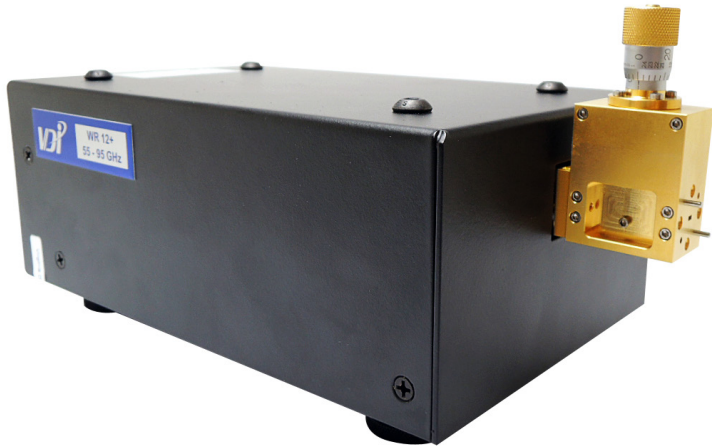

Figure 16. VDI signal generator frequency extender with Option A30 variable mechanical attenuator.
1. Option A30 available; 0 to 30 dB variable mechanical attenuator as shown in Figure 16.